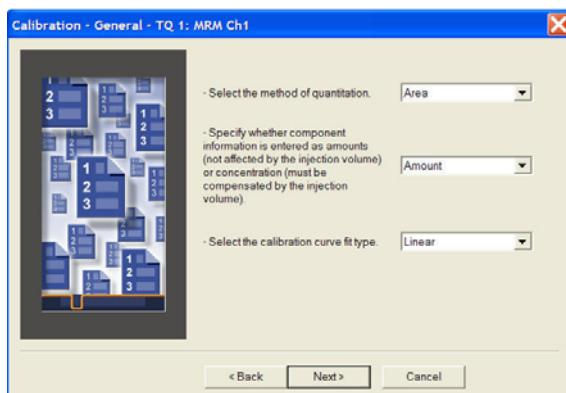

Figure 114 - Calibration window
15. Click the drop-down lists, and then select the following settings (Figure 114):